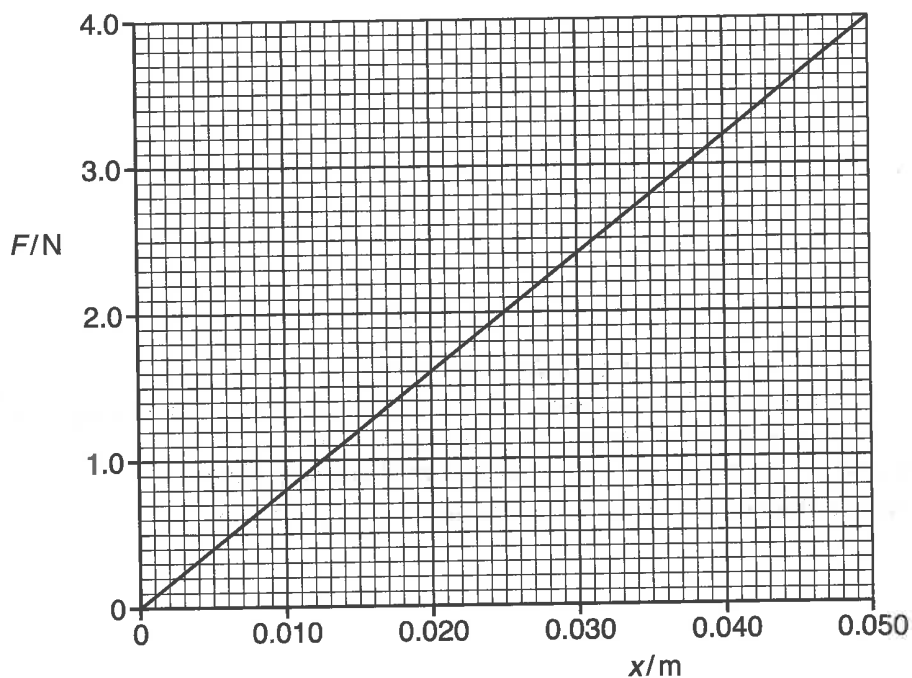

Fig. 4.1
The variation with extension x of the force F applied to a spring is shown in Fig. 4.1.
(a) Use Fig. 4.1 to determine the spring constant of the spring.
- (b) Use Fig. 4.1 to show that the decrease in elastic potential energy of the spring is 0.055 J when the block moves from position Y to position X.